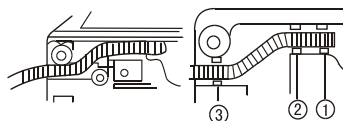

Figure 3
Embed the drain hose into the groove along the side of the spin tub in the order of (1)~(3), heading for the side of the wash tub. (See to Figure 3).